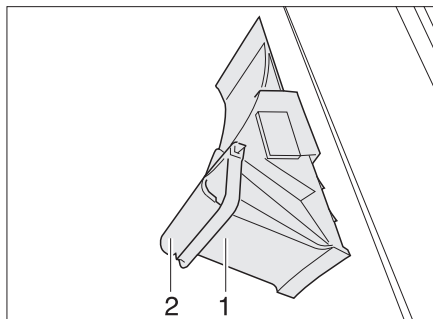

Fig. 15 Wheel chock
- Swivel the retaining clip (Bild 15,2) down.
- Remove the wheel chock (Bild 15,1) from the holder.